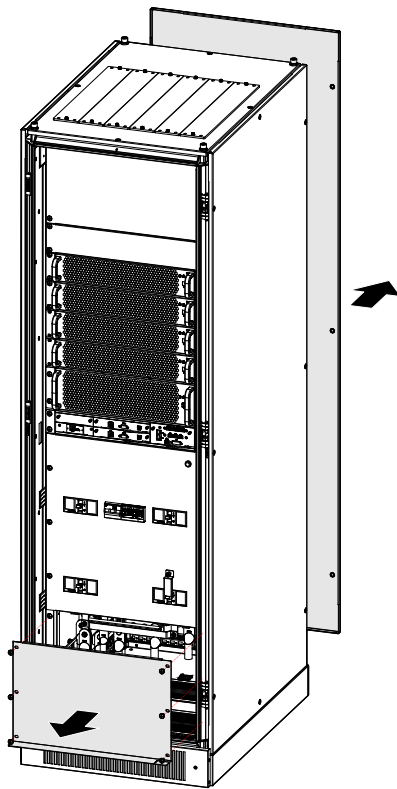

Figure3-28 Dismantle the bottom wiring plate and rear plate
Step 1 Open the door of UPS, and dismantle the bottom wiring plate and rear plate, as shown in Figure3-28.